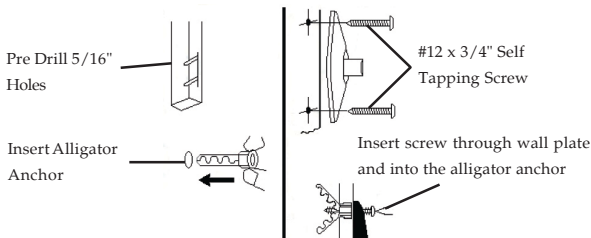

Figure 8
1. Locate the best mounting location in the ceiling or wall. Using the wall plate as a template, mark the hole positions on the mounting surface. For in-wall applications, position the mounting holes in a vertical pattern, see **Figure 8** on the next page.
3. Once the holes are drilled, insert the alligator anchor into the holes. Make sure the anchor is flush with the wall and/or ceiling surface, see **Figure 8** on the next page.
4. With the anchors in place, mount the wall plates using the #12 x 3/4" self tapping screws, see **Figure 8** below.